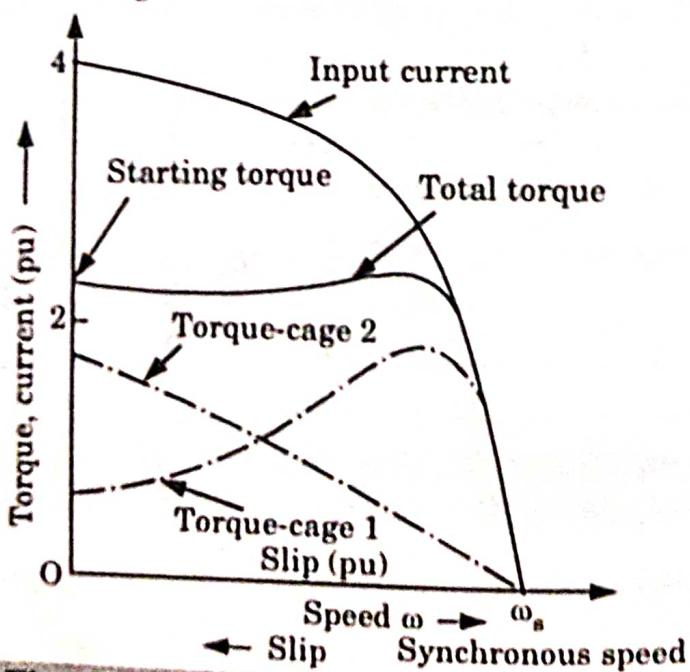

Fig. 4.8.1. Torque and slip characteristics of a double-cage induction motor.
2. The torque-slip characteristics of the two cages and total torque of the motor is shown in Fig. 4.8.1.